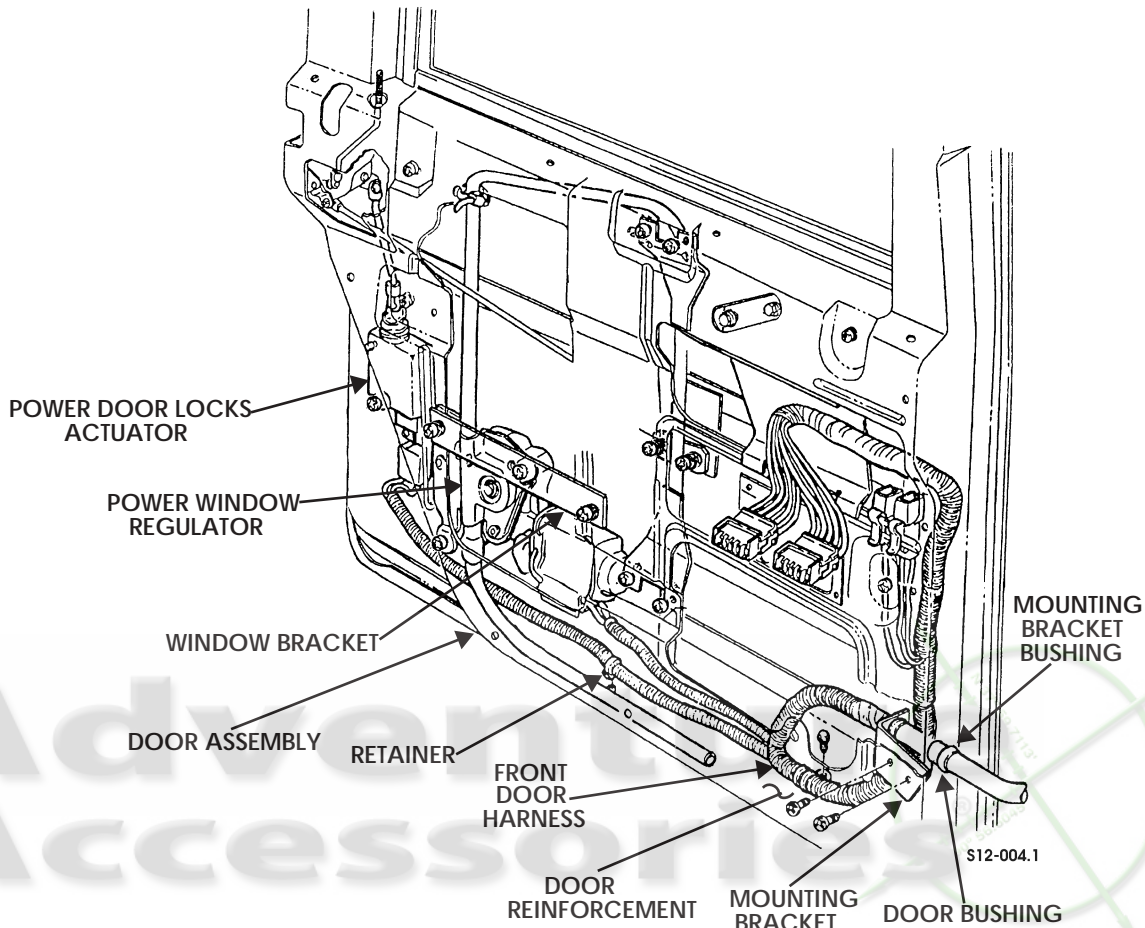

Figure 13-85: Power Windows and Door Locks Harness
12. Remove self-tapping screw and clamp securing harness to door reinforcement (Figure 13-85).
1. Route harness through harness mounting bracket, mounting bracket bushing, and door bushing (Figure 13-85).
2. Install harness mounting bracket on door assembly with two self-tapping screws (Figure 13-85).
9. Connect harness connector to power window regulator (Figure 13-85).